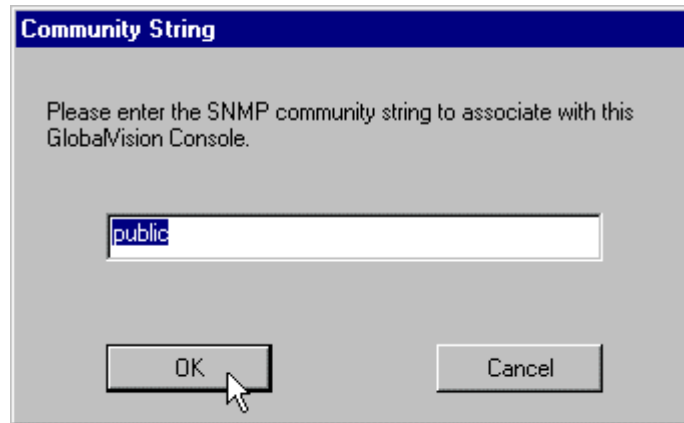

Figure 81 - Community String dialog box
2. Click on **OK** to finish. See Figure 81.